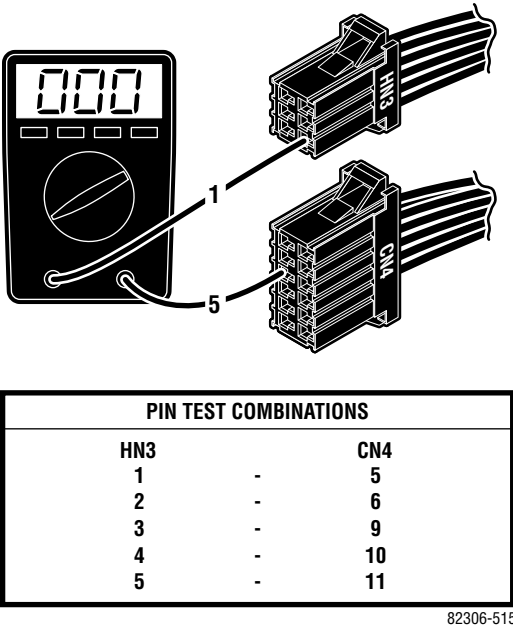

Figure 5-16. CN4 and HN3
- 2. Using an ohmmeter, test for continuity between pins of CN4, and HN3. See figure 5-16.